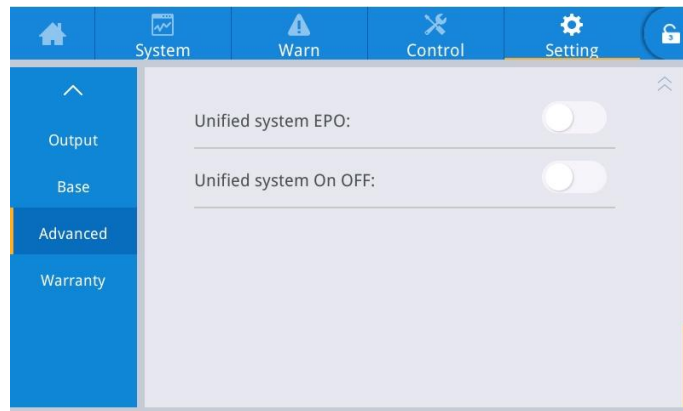

Fig.5-9 Unified System On/Off setting interface
3.Unified system on/off is enabled. If you need to set the parallel power on/off of the parallel system, you can set the [Unified System On/Off] option in the advanced parameter settings of the setting interface, as shown in Figure 5-9.